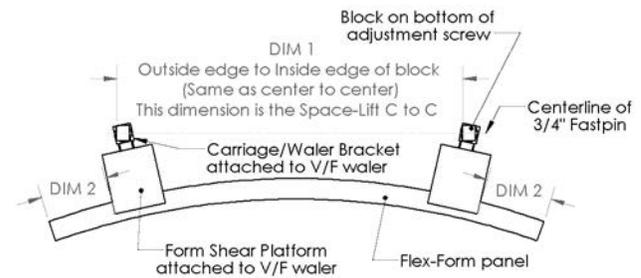

FIG. 72
5. Set DIM 1, from Fig 72, by moving one or both of the walers to the center-to-center spacing of the Space-Lift frames.